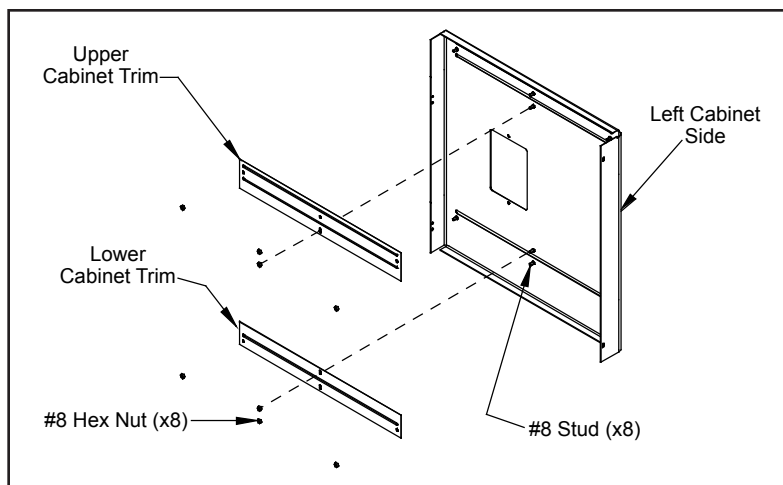

Figure 42: Right cab side with upper and lower cabinet trims.
Place the new trim pieces on their corresponding studs and finger tighten the #8 hex nuts (four (4) for each piece of trim). Refer to Figure 42.